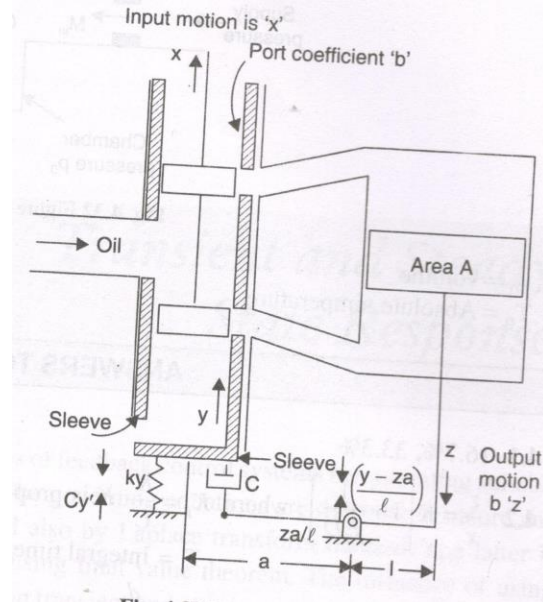

Figure1
5. Prove that the controller shown in figure1 is of PI type, relating output motion 'z' and input motion 'x'. Further, motion of sleeve may be assumed as 'y'